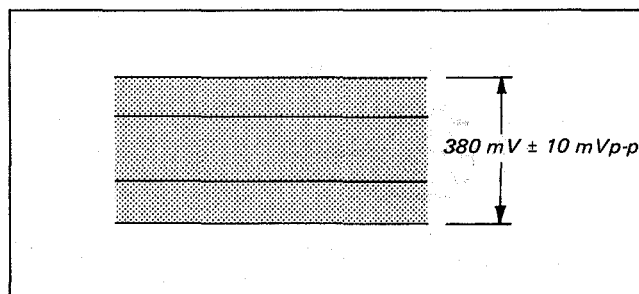

Fig. 5-26. Y record current adjustment
- i) Adjust to $380 \text{ mV} \pm 10 \text{ mVp-p}$ with RV1. (See Fig. 5-26.)